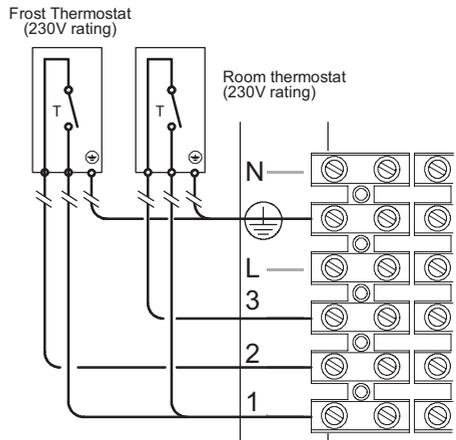
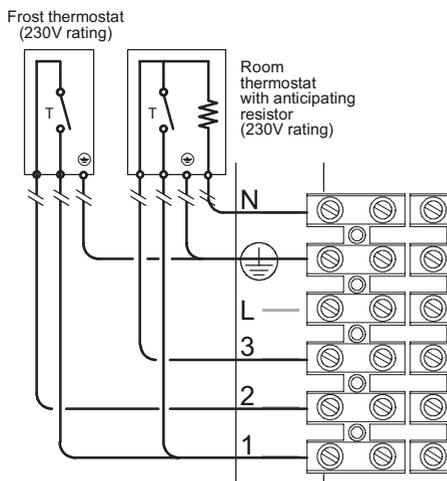

Fig. 6.27
Fig. 6.28
- Connect the frost thermostat between terminals 1 and 2 as shown in Fig. 6.27 or Fig. 6.28.